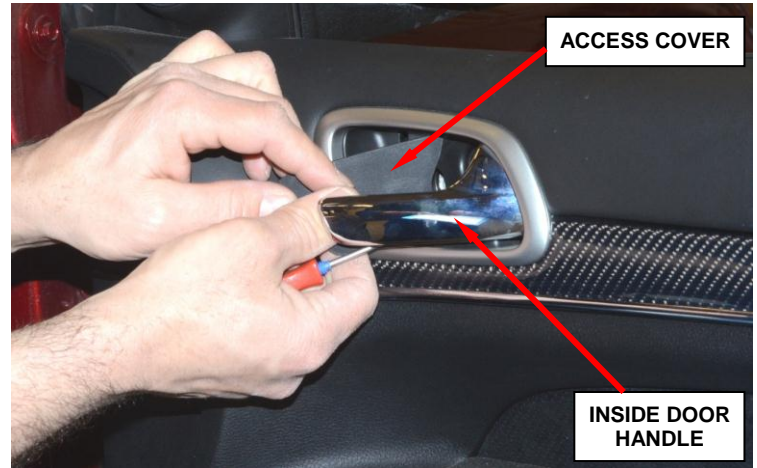

Figure 14 – Inside Door Handle Access Cover
1. Remove and save the inside door handle screw access cover (Figure 14).